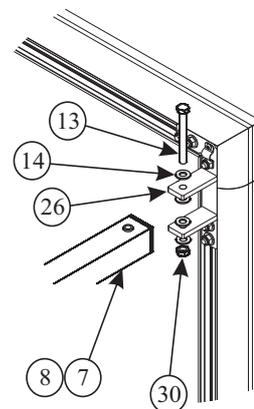

Fig.8
6 Attaching Goal Frame to Sidebars - Lift the assembled goal frame into the upright position and stand in front of the bottom sidebars, two people will have to remain holding the goal frame in position whilst the other individual connects the goal frame to the bottom side bars. Secure together as in step 5 but using M12 x 110mm bolt (13) as shown in Fig 8. Ensuring that the upright has enough clearance from the ground fully tighten all the nuts on the bracket.